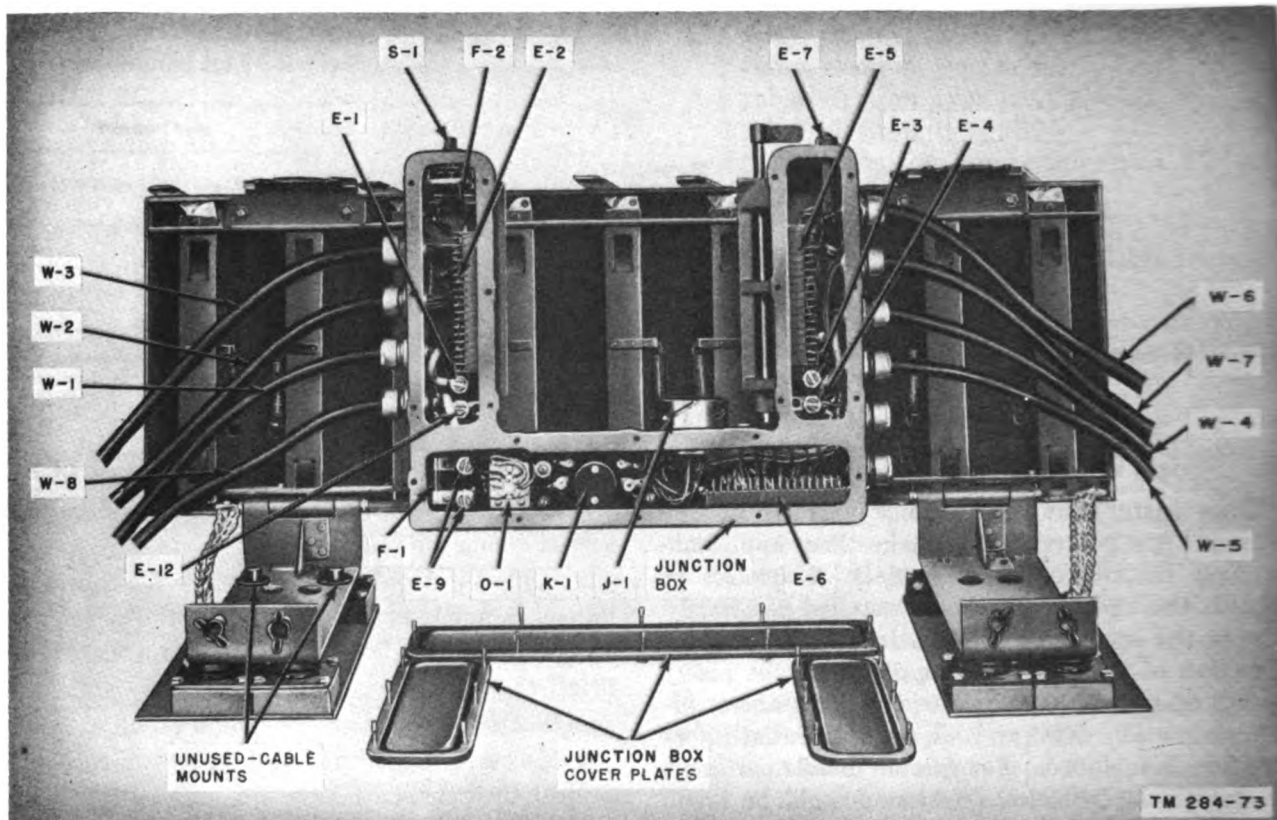

Figure 19. Mounting MT-297/GR, open view.
- b. Loosen the four wingnut fasteners which hold the mounting table firm against the shock mounts. Swing the mounting table back on its hinges to make the junction box available. Remove the three cover plates from the junction box (fig. 19).
e. Loosen the bondnut on the cable clamp at one of the unused cable entries on the right-hand side of the junction box (fig. 19). Remove the nut, metal ring, and rubber washer from the cable clamp and slip them over the prepared end of the cable in the same order (nut, ring, and washer). (The rubber plug which will be found in the cable entry is for waterproofing an unused entry; it will not be required in the final assembly.)
f. Insert the prepared end of the cable through the cable entry and solder the individual conductors to the terminals of terminal board E-6 in the mounting (fig. 19); observe the color coding indicated in figure 21. The cable should be inserted until the outer insulation protrudes on the inside of the junction box. Sufficient slack should be allowed for all terminal connections.
h. Before replacing the covers on the junction box, check the tightness of the solderless connectors, E-1, E-3, E-4, E-9, and E-12 (fig. 19). Cable compression can cause these connectors to become loose over a period of time. The fuse may be checked at this time also.
j. In Radio Sets AN/VRC-13, -14, and -15, which do not use an auxiliary receiver, fasten the two receiver cables (W-1 and W-2 in fig. 19) to the unused cable mounts (fig. 19).
o. Connect the battery cable (W-8 in fig. 19) in accordance with instructions furnished with the